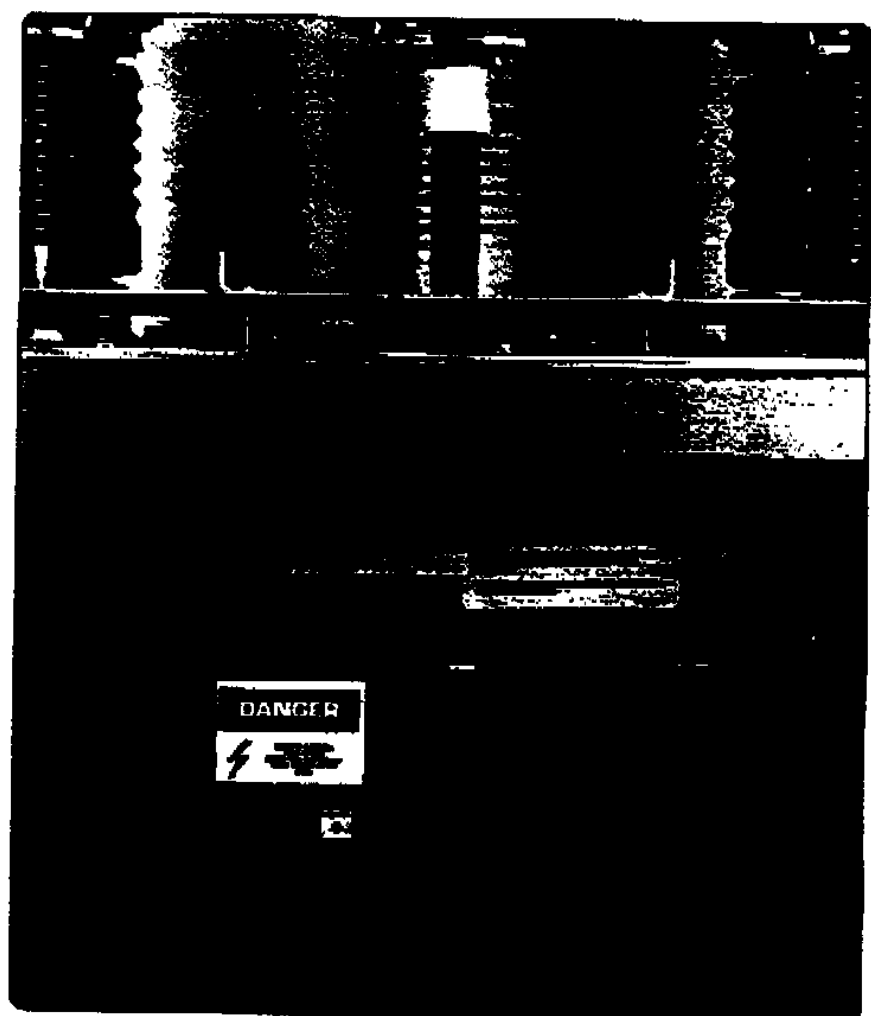

Figure 7 - Control Panel
*If it is desired to make a dielectric test on the secondary control wiring, turn the spring charging motor disconnect switch (1, Fig.7) to the "OFF" position. Apply test voltage (1100V-AC) for one minute to each of the secondary contacts.
If it is desired to make a dielectric test on the spring charging motor, turn the motor disconnect switch (1, Fig.7) to the "ON" position. Apply test voltage (540V-AC) for one minute to the motor circuit.